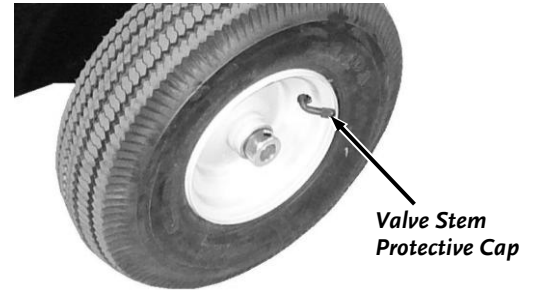

Figure 15
1. Remove the Valve Stem Protective Cap and check the tire pressure with a Tire Pressure Gauge (**Figure 15**).